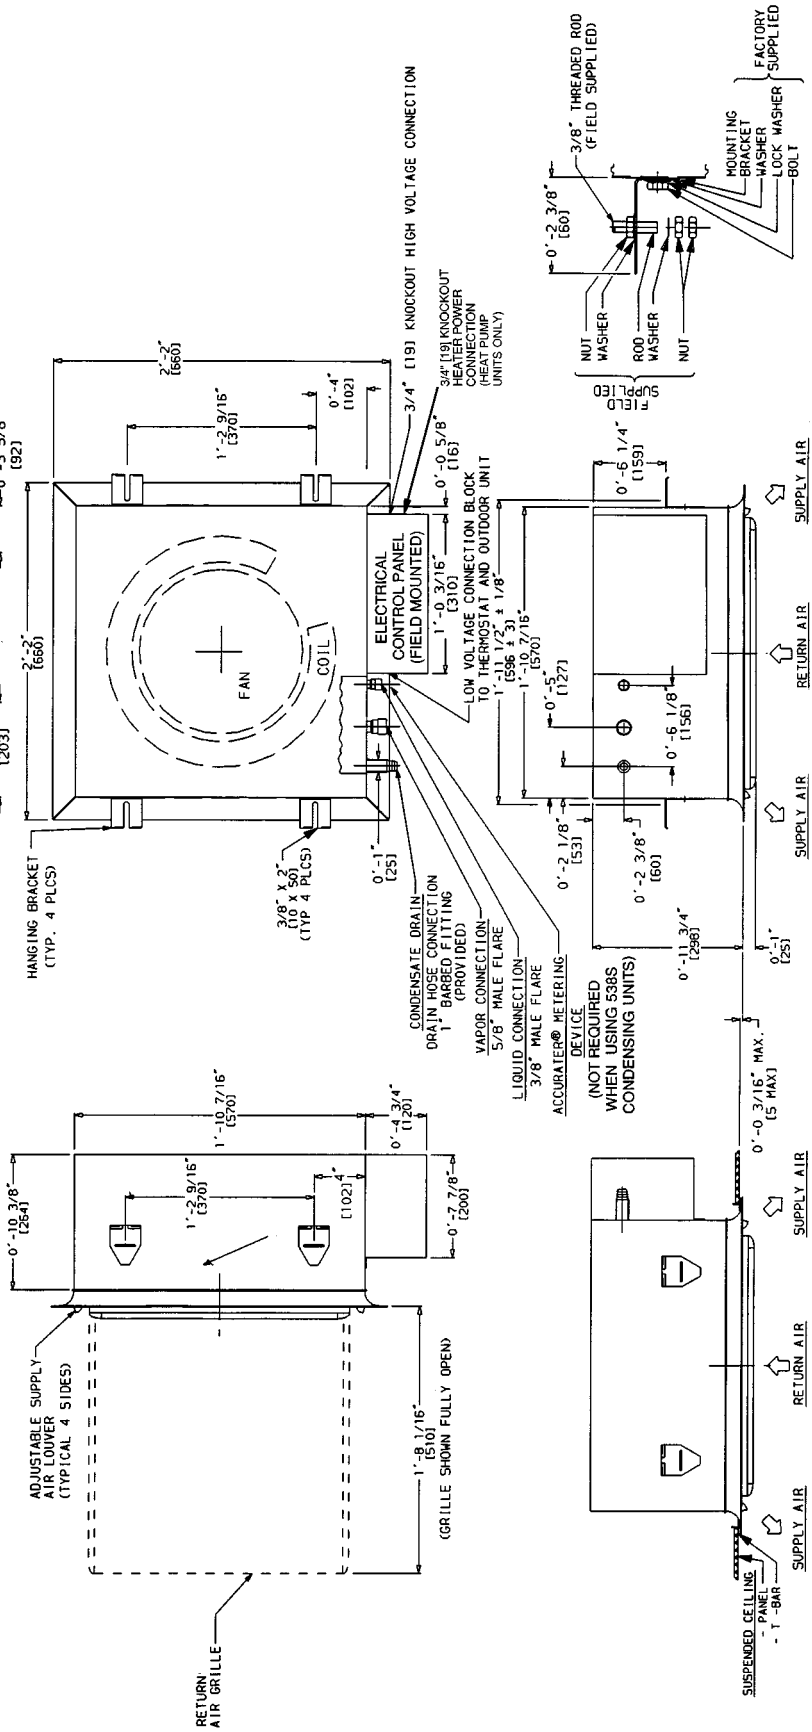

Fig. 2 — Base Unit Dimensional Drawing, 619F-024
3. Refer to Installation section (below) and Fig. 2 and 3 for locations of electrical inlets, condensate drain, duct connections, and required clearances before setting unit in place.
- Install removable ceiling panels adjacent to the unit for servicing. Refer to Fig. 2 and 3 for service clearances.
- a. Refer to Fig. 2 and 3 for distance between the holes for hanging brackets. Mark distance on the ceiling joists before drilling holes for securing rods to ensure they will line up with the holes on unit.